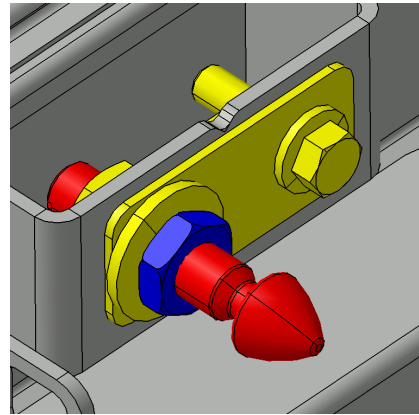

FIGURE 67
15. Use the pin to adjust the door so it is even with the adjacent panel. Screw or unscrew the pin as required and then apply final tightening to the jam nut (FIGURE 67).